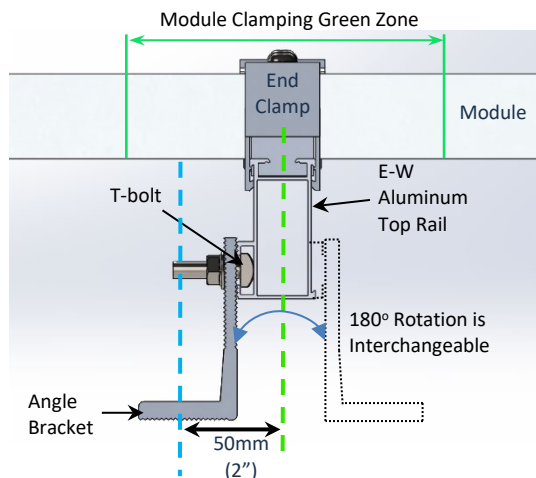
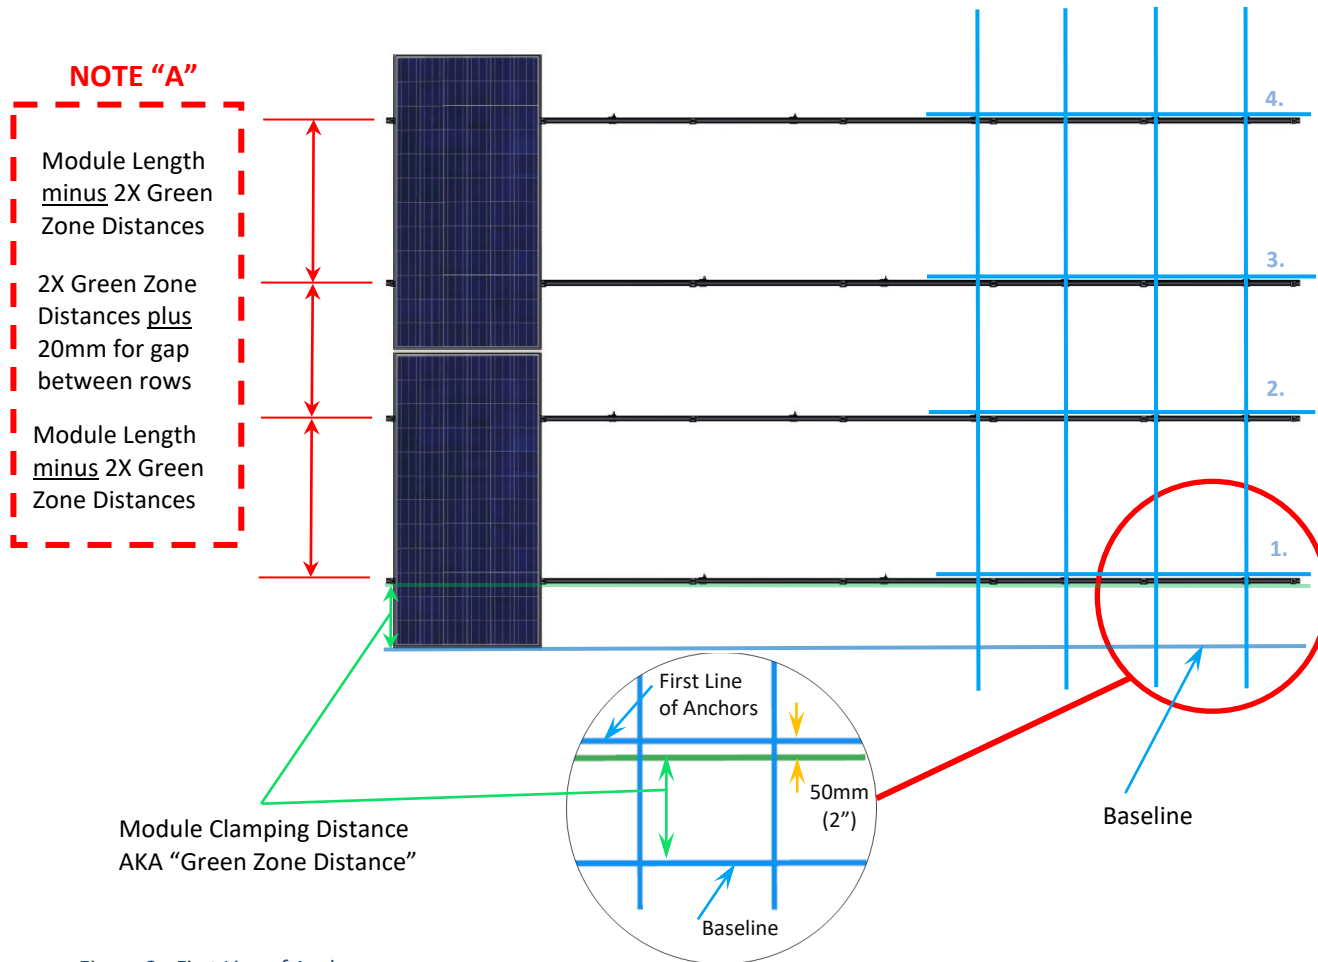

Figure 1 - Side View
Figure 2 - First Line of Anchors
- a) For the first line of anchors above the bottom edge, add 50mm (2”) to the green zone distance to account for the offset of the anchor (See Figure 1, & Line 1. of Figure 2).